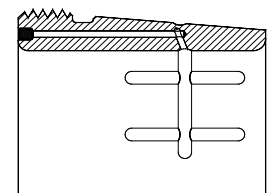

Fig. 2.24
- d) **Withdrawal sleeves (fig. 2.24)**